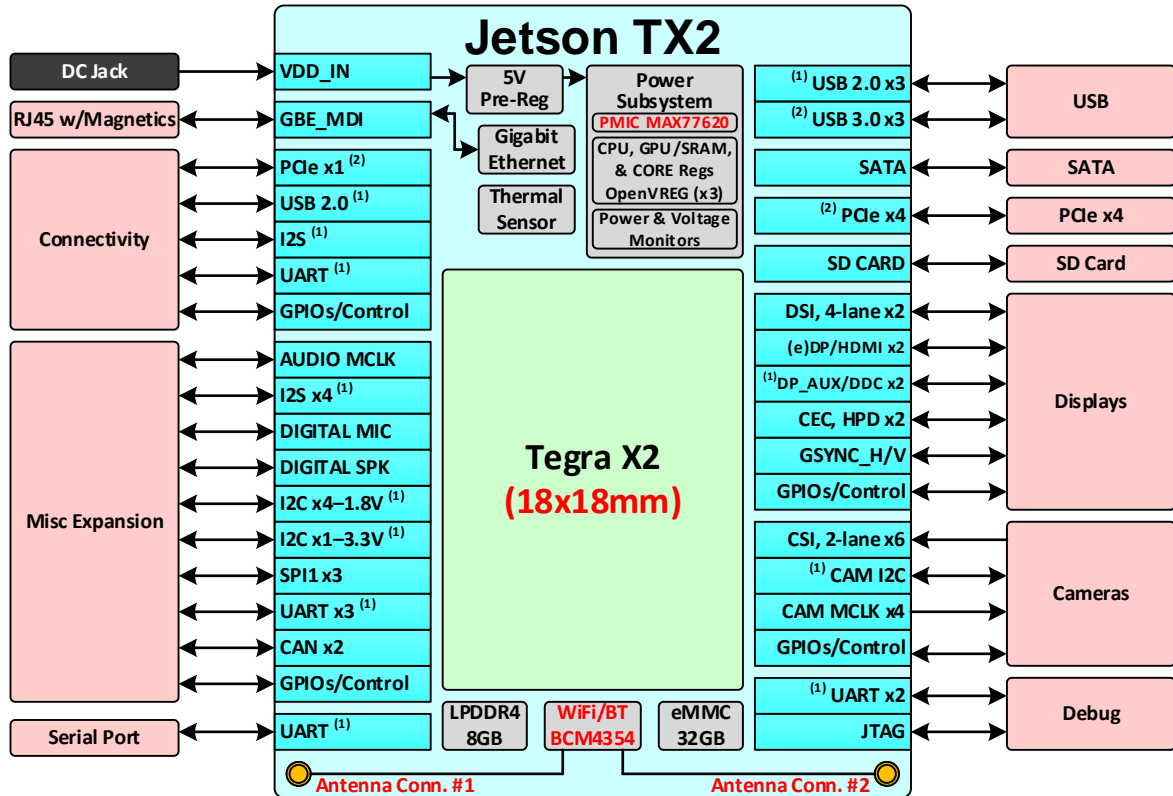

Figure 1. Jetson TX2 Block Diagram
2. USB 3.0, PCIe, and SATA share lanes. Not all instances shown in Figure 1 can be brought out together.